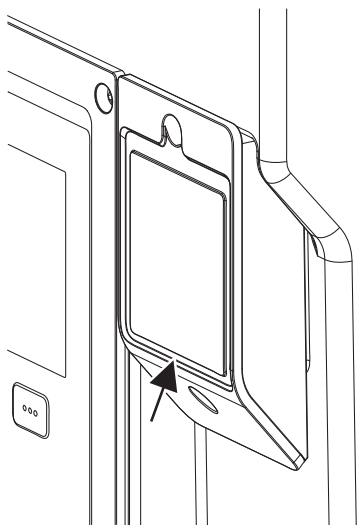

Fig. 27: Cover for Wilo-Smart Connect module BT
1. Loosen the screw of the Wilo-Smart Connect module cover (Fig. 27) and open the cover.
Due to its design, the Wilo-Smart Connect module BT can only be plugged in in one direction. There is no further fixing of the module itself. The Wilo-Smart Connect module cover (Fig. 27) on the upper part of the electronic module holds the module firmly in the interface. Observe the tightening torques! Tightening torques for electronic module [► 42]